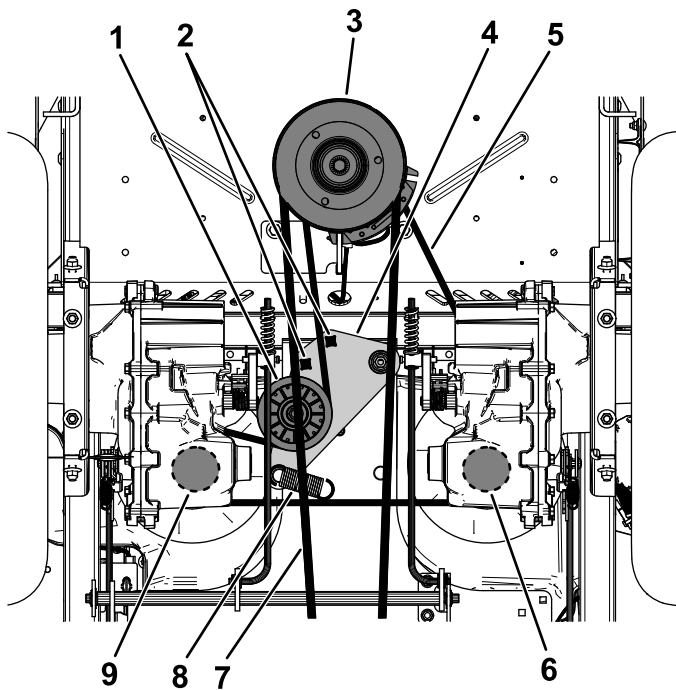

Figure 62
5. Use a 1/2-inch ratchet or breaker bar in one of the square holes in the idler arm to remove tension on the idler spring (Figure 62).
6. Remove the existing belt from the idler pulley, 2 hydraulic-pump-drive pulleys, and engine pulley (Figure 62).
7. Install the new belt around the idler pulley, engine pulley, and 2 hydraulic-pump pulleys (Figure 62).